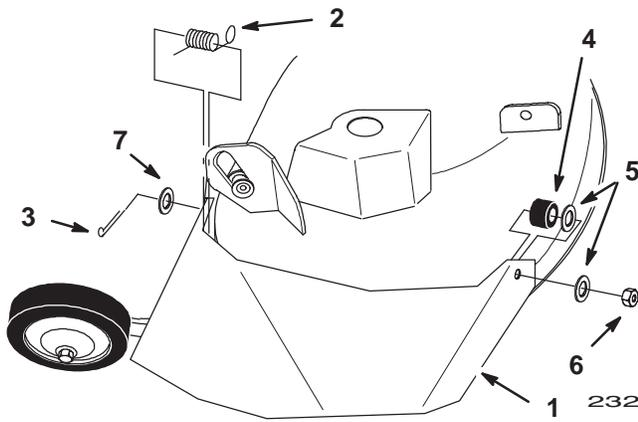

Figure 2
1. Locate items show (Fig. 2).
2. Place spring short end into small hole in the discharge chute (Fig. 2).
3. Position spring and discharge chute over post on rear of deck and secure with a washer (1/2 in.) and a cotter pin (3/4 in.) (Fig. 2).
5. Place discharge chute over stud and secure with a plastic washer and jam nut (3/8 in.) (Fig. 2).